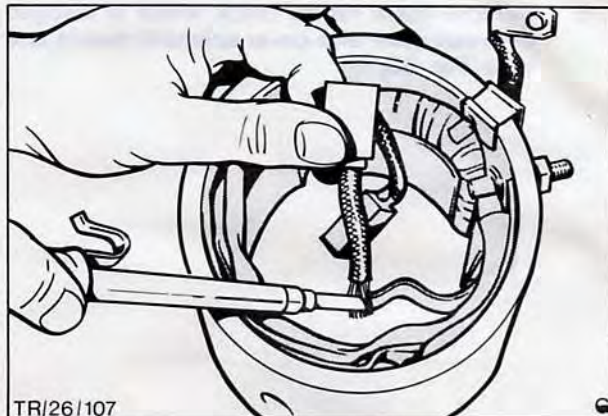

Fig. 63. Soldering field coil brush into position
8. Carefully prise field coil conductors away from yoke to provide sufficient space to solder new brushes in position. Separate two brush flexibles and position them on either side of conductor. Using a pair of long nosed pliers pinch flexibles and conductor together and bend brush over edge of yoke to help hold brush flexible during soldering. Solder each of the field coil replacement brushes in this way. Fig. 63.